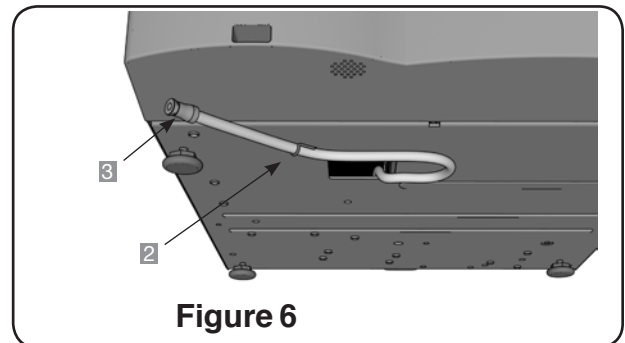

Figure 6
To prime the STATIM pump, follow these steps (see Figure 6):
2. Using the drain tube (see Section Priming the Pump, Figure 6) empty the contents of the reservoir into the water container.